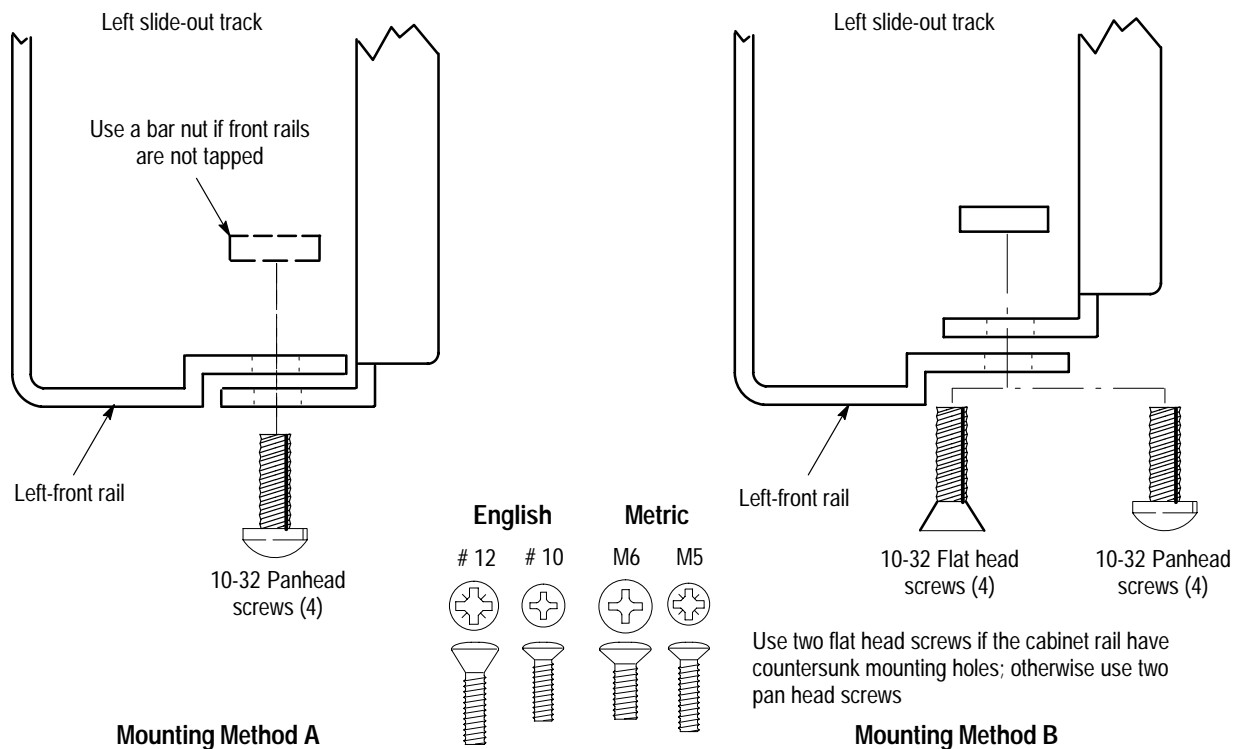

Figure 10: Installation of slide-out track assemblies in rack (top view)
- To mount the slide-out tracks with their front and rear flanges outside of the front and rear rails, use the method A shown in Figure 10 when doing substep c. Add a bar nut to the installation only if the rails have untapped holes.
- To mount with front and rear flanges inside of rails, use the mounting method B outlined in Figure 10. This mounting method assumes untapped holes.